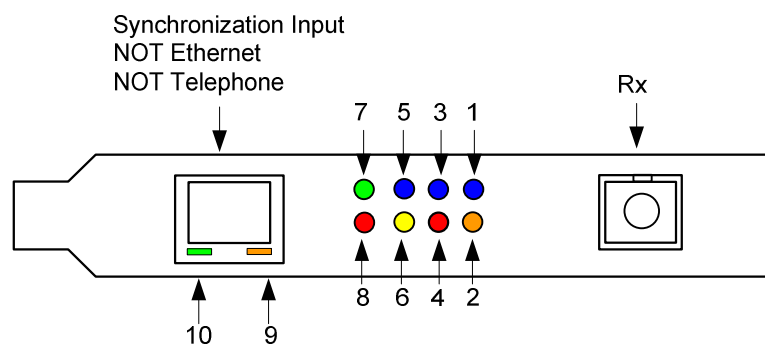

Figure 4-1. Typical DAG 6.2S Card Status LEDs.
**Figure** Figure 4-1 shows the typical DAG 6.2S status LEDs.